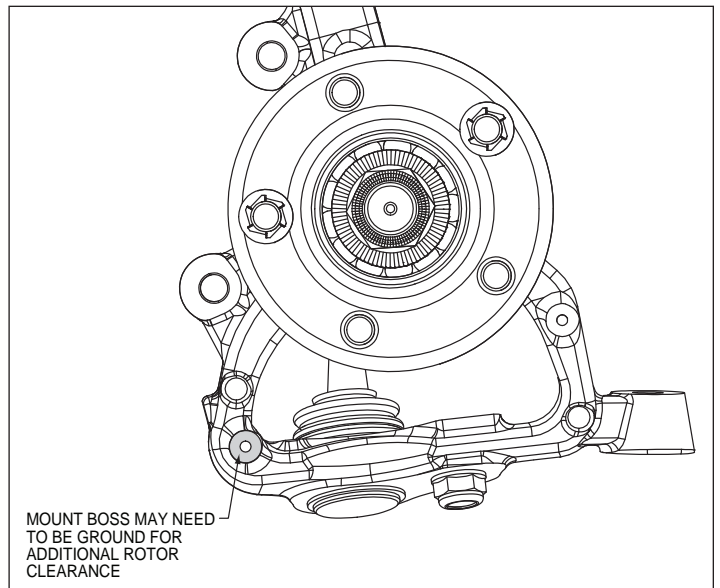

Figure 4. Mounting Boss Modification
- Slide the rotor registration adapter (6) onto the axle register on the axle hub with the smaller O.D. facing outward, Photo 3. Slide the hat/rotor assembly onto the axle hub. **NOTE:** The hat must fit flush against the axle hub flange or excessive rotor run out may result. Install three lug nuts (finger tight) to keep the hat/rotor assembly in place while continuing with the installation. **NOTE:** Check clearance between rotor and upright at backing plate mounting boss, Figure 4. Verify there is a minimum of .050". If not, remove material from mount boss on upright.